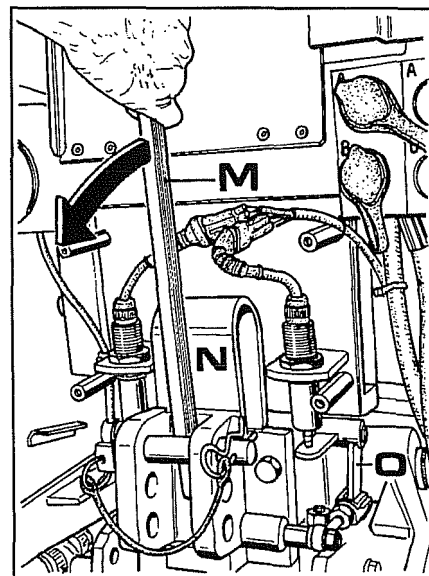

Fig. 53
- c. Insert a lever (**M** Fig.53) behind the 3-point hitch and move it in the direction shown by the arrow. In this way, you will move hitch carrier spring **N** and, as a result thanks to the reaction of the linkage (**O**) lower the controlled draught tip contact blade. At this point the lift should begin to raise and, if you release the lever, the lift should lower again.